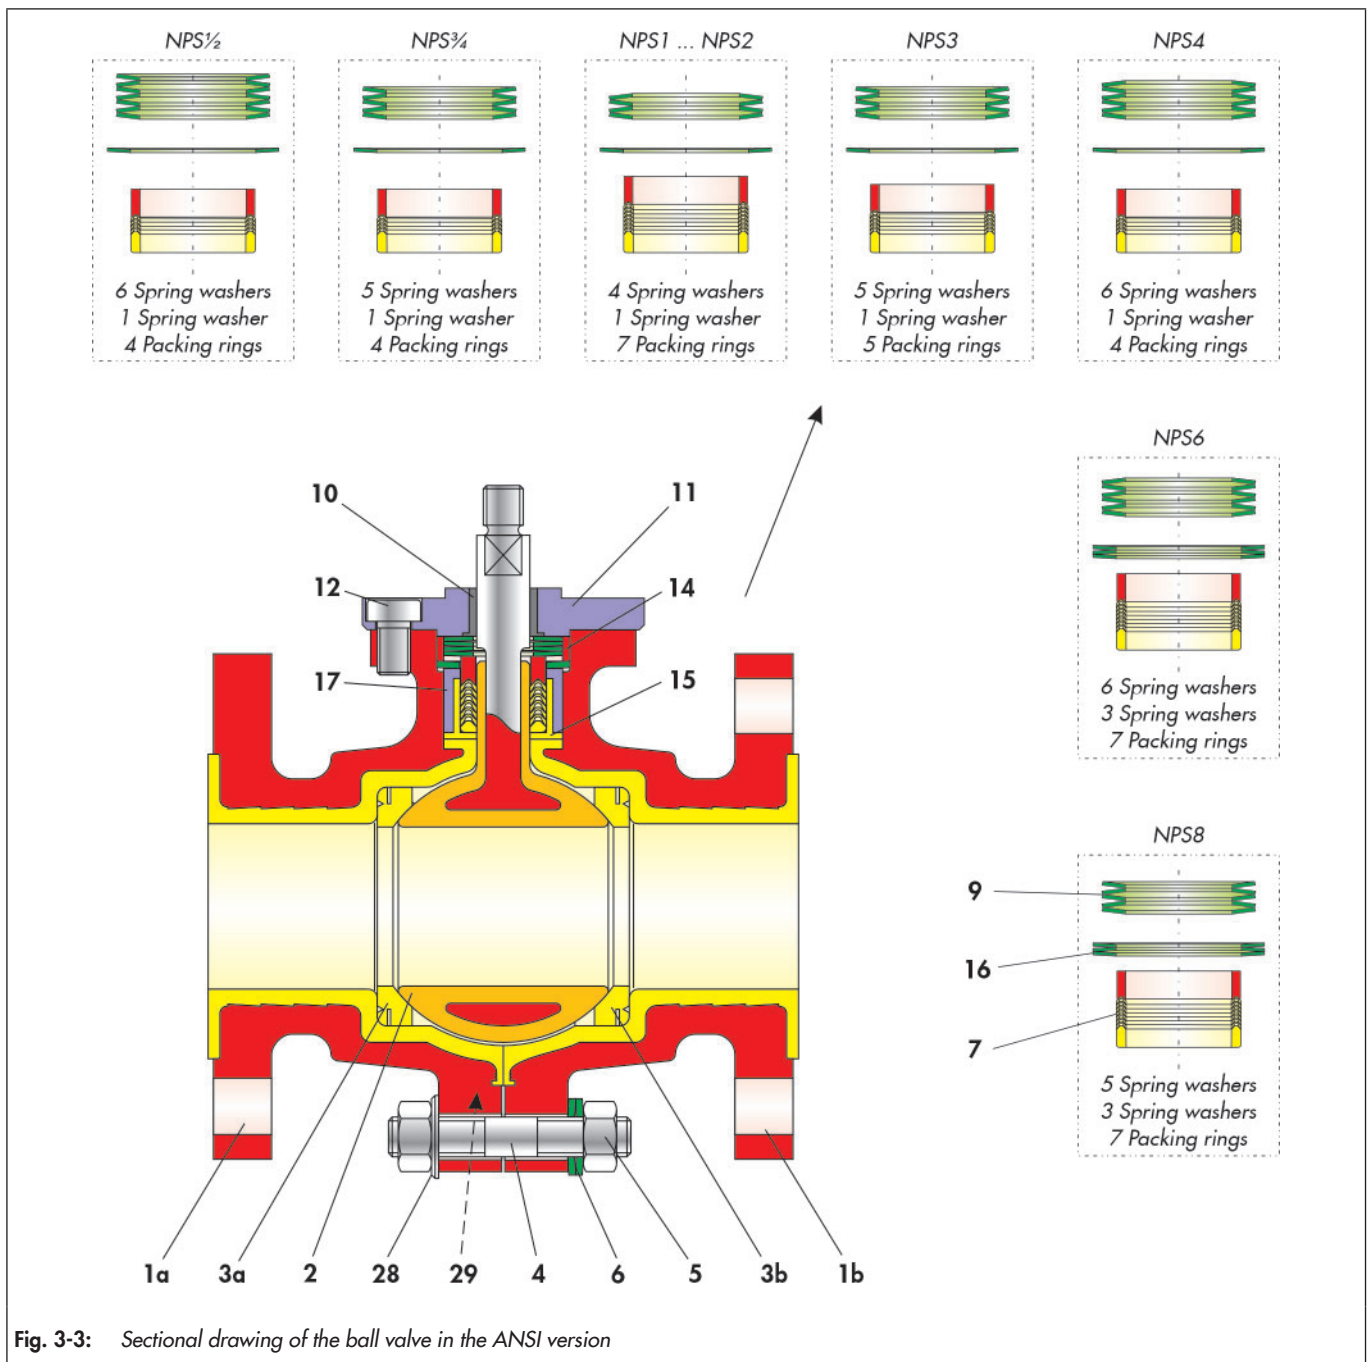

Fig. 3-3: Sectional drawing of the ball valve in the ANSI version
- ⇒ Fasten the body halves together with screws (4), washers (28), disc springs (6) and nuts (5) so they are hand-tight. The arrangement of the disc springs can be found on the drawing, see Fig. 3-3.
- ⇒ Place the disc springs (16) on the bushing (17). The location and quantity of the disc springs can be found on the drawing, see Fig. 3-3.
- ⇒ Place the centring ring (14) on the disc spring.
- ⇒ Insert the disc spring set (9) in the centring ring until reaching the bottom ring of the V-ring packing. The arrangement and quantity of the disc springs can be found on the drawing, see Fig. 3-3.
- ⇒ Insert the bearing bushing (10) into the stuffing box flange (11).
- ⇒ Place the pre-assembled stuffing box flange on the body and adjust with screws (12).
- ⇒ Place the V-ring packing (7) in the bushing (15). The number of packing rings can be found on the drawing, see Fig. 3-3.
- ⇒ Push the bushing (17) carefully over the packing (7) and the PTFE bushing (15).
- ⇒ Place the disc spring(s) (16) on the bushing (17). The location and quantity of the spring washer(s) can be found on the drawing, see Fig. 3-3.
- ⇒ Place the centring ring (14) on the disc spring(s).